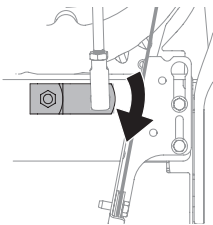

Figure 50
3. Make sure the shift lever on the back of the transmission is rotated downward to the full extent of its rotation (Figure 50).
4. Rotate ferrule up or down on shift rod as necessary until it lines up with upper hole in shift lever (Figure 50 inset).